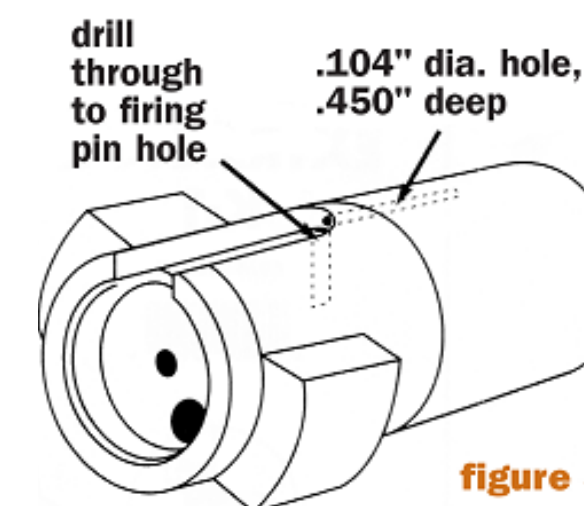

figure 3.
3. Use the appropriate end mill to cut the groove for the extractor. The length of the slot cut is shown in Figure 2. The depth of the slot is dependent on the diameter of the case the gun is chambered for. Refer to Figure 1 and its accompanying table for the correct slot depths and dimensions for different applications. Cut the slot in several passes; do not attempt to make the cut in one pass. Figure 3 shows the relationship of the slot to the bolt face.